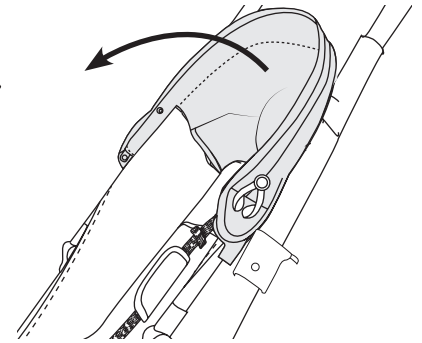

Fig. 4A
- To close canopy: Push canopy lock on both sides of the canopy. Rotate canopy backward until close. (Fig. 4A)